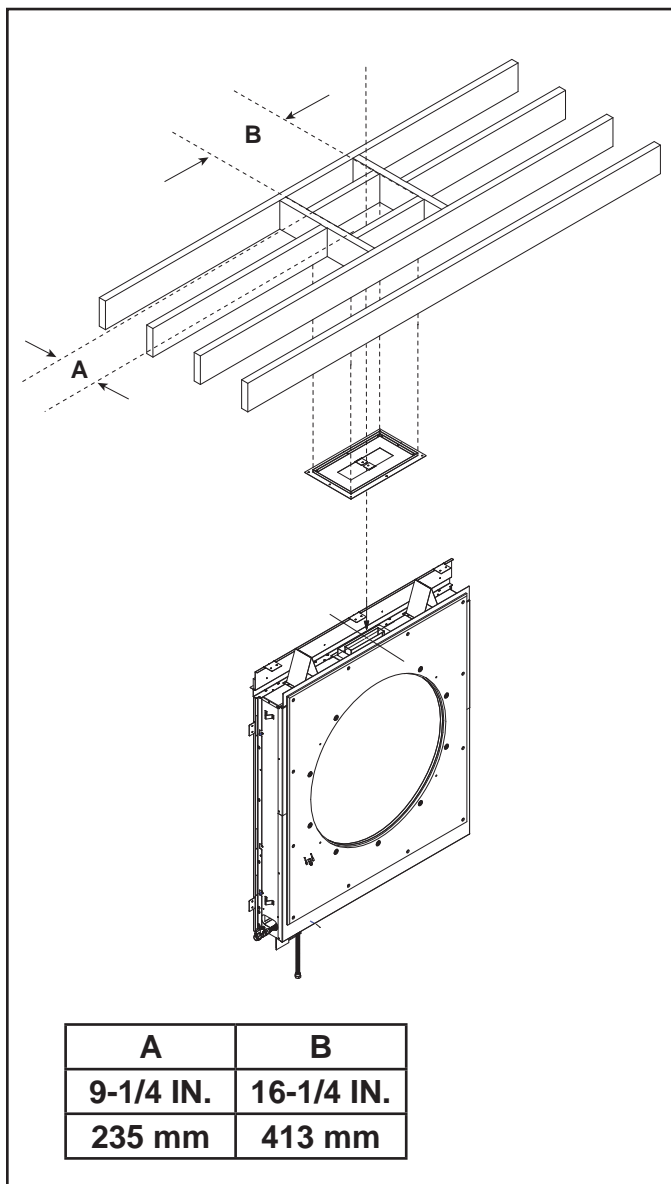

Figure 8.5 Installing DVRP-WFS Ceiling Firestop
- **DVRP-WFS** -Frame opening 9-1/4 in. x 16-1/4 in. (235 mm x 413 mm) whenever the vent penetrates a ceiling/floor. See Figure 8.5.